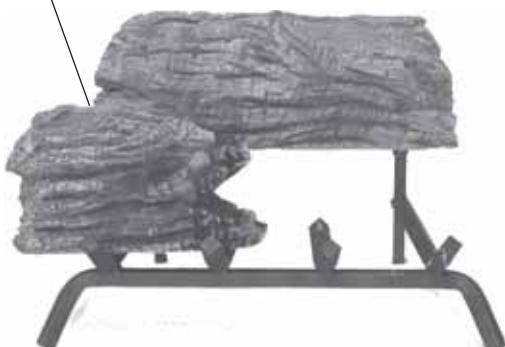

Figure 14 - Placing Front Left Log (#2) on Grate
3. Place front left log #2 on the front of the grate and to the left. See Figure 14.